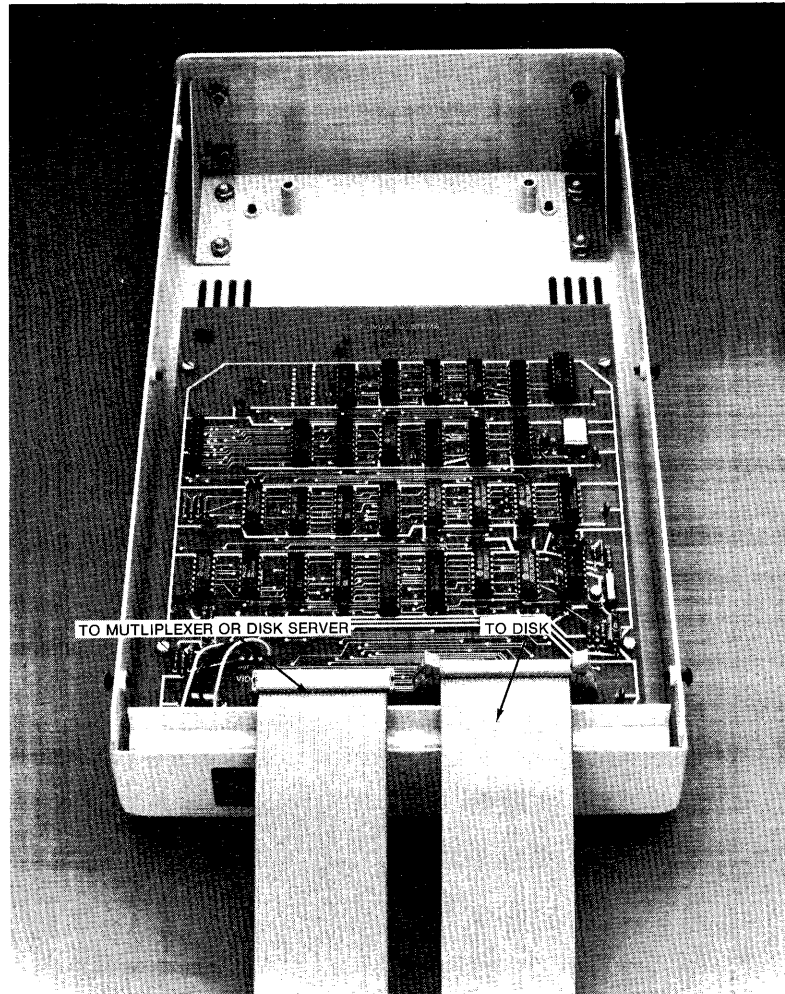

Figure 12. Stand Alone Mirror
Attach the other end of this cable to the drive connector on the Mirror interface board (see Figure 12).
6. If you have ordered the Remote option, install the Remote Cable to the 20 pin male connector J3 on the interface board (see Figure 12).